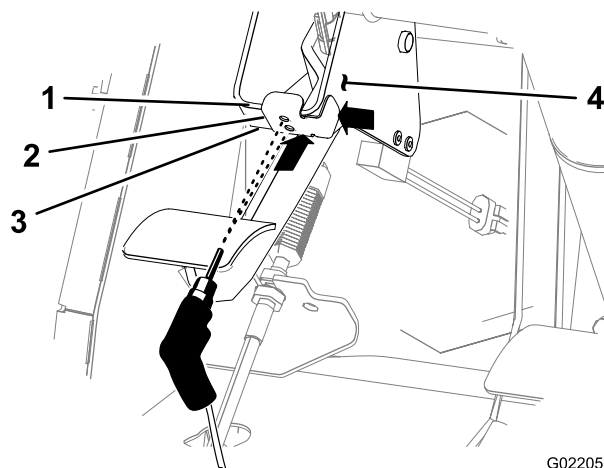

Figure 2
1. Align the drilling template to the top edge, face, bottom edge, and right side of the support bracket for the clutch pedal (Figure 2).
2. Using the template as a drilling guide, drill 2 holes (5/16 inch) through the face of the support bracket (Figure 2).